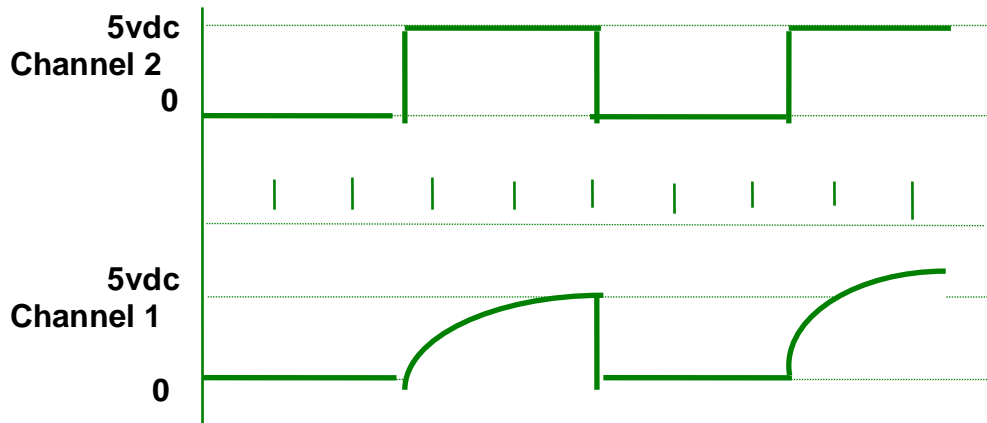

FIG. 6
- 6.8.9** Verify Waveform per Fig. 6 on next page. Channel 1 rise-time is caused by fixture wiring.